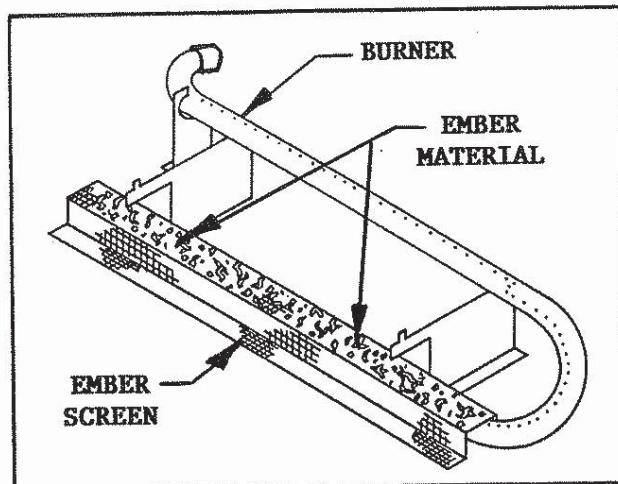

FIGURE 3
G. With the logs in position, place the complete assembly as far back in the fireplace as possible and center it, left to right. To create a glowing ember effect, carefully spread a single layer of dime size and shape pieces of ember material (found in a separate bag) uniformly over the upper portion of the lower burner. See Figure 3.